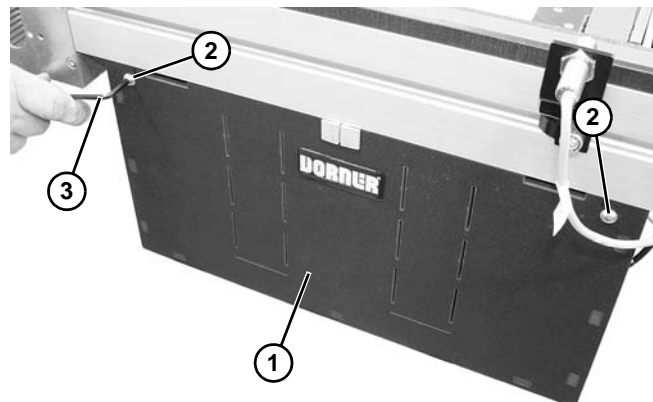

Figure 32
3. Install guard kit (**Figure 32, item 1**) with button head screws (**Figure 32, item 2**) on both sides. Tighten screws with hex wrench (**Figure 32, item 3**).